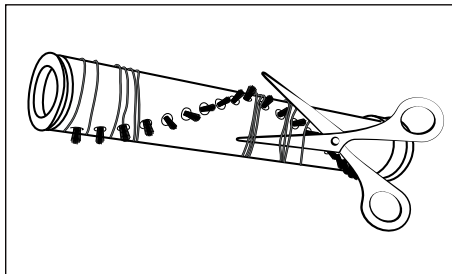

Fig. 27
- 3) Cut threads and hairs along the bristles of the rotary brush **20** with scissors (see Fig. 27). Remove threads and hair from the rotary brush **20**.